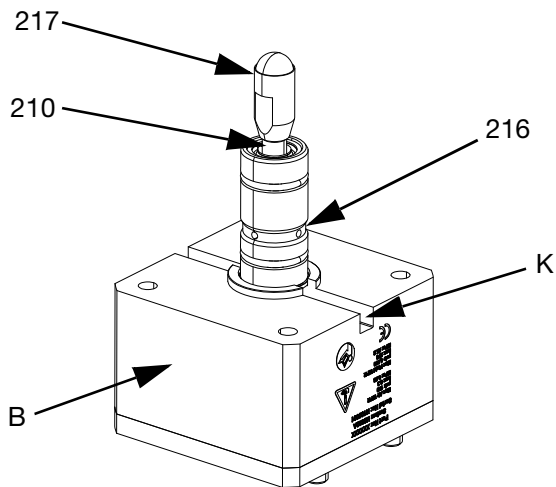

Fig. 7
2. Apply grease on the outside of the cartridge kit (216).
3. Apply a light amount of the supplied purple anaerobic adhesive to the bottom threads of the piston rod (210).
4. Screw the ball assembly (217) on the piston rod (210).
5. Place the valve in a vertical position in a vise. Place an Allen key through the piston rod (210) located in the Weep Hole (K). See FIG. 7.
6. Use a small torque wrench with a 1/2 in. or 13 mm crowfoot to tighten the ball assembly (217) to the piston rod (210). Torque to 54-60 in-lbs (6.1-6.8 N•m).